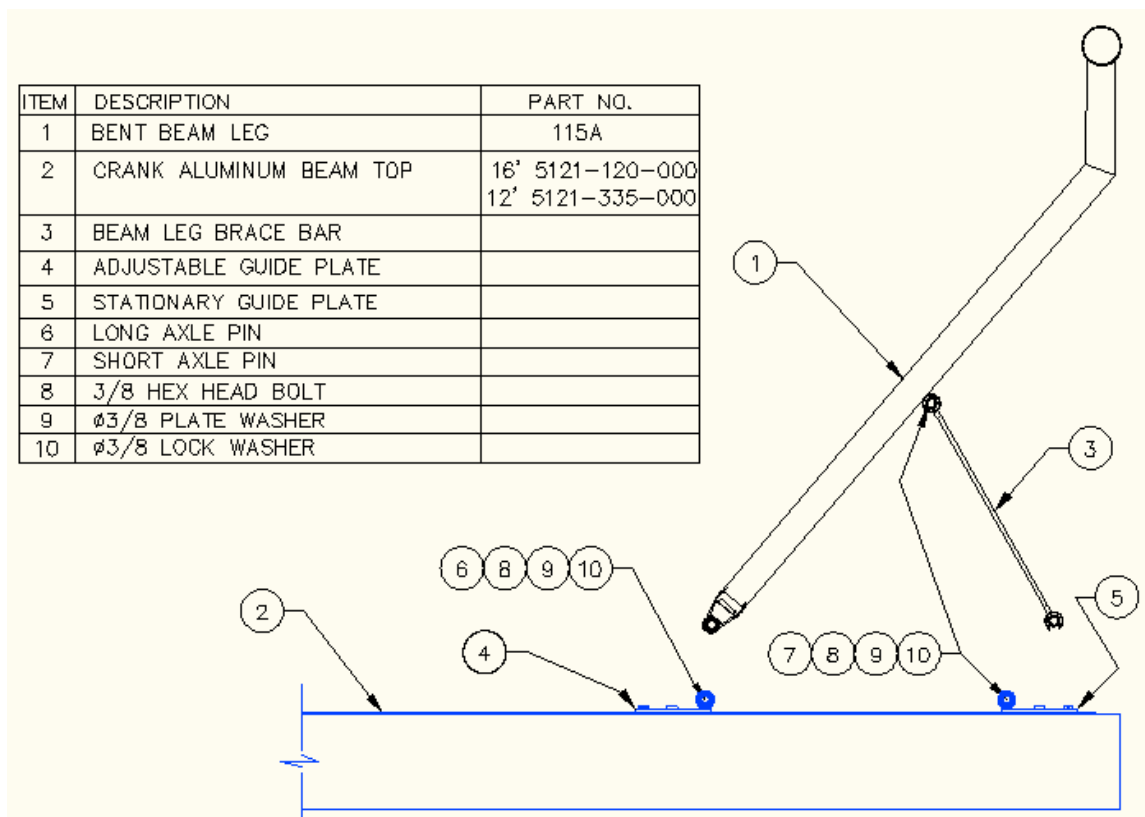

Figure 1
Please refer to the **Figure 1** below for part names and locations.
- Periodically check the **Adjustable Guide Plate nut (Fig.1) for tightness.** The nut should be tightened as described under the assembly instructions on page 4 (point 6). If the nut is too tight, it will make the beam hard to adjust. If it's too loose, damage may occur to the components.